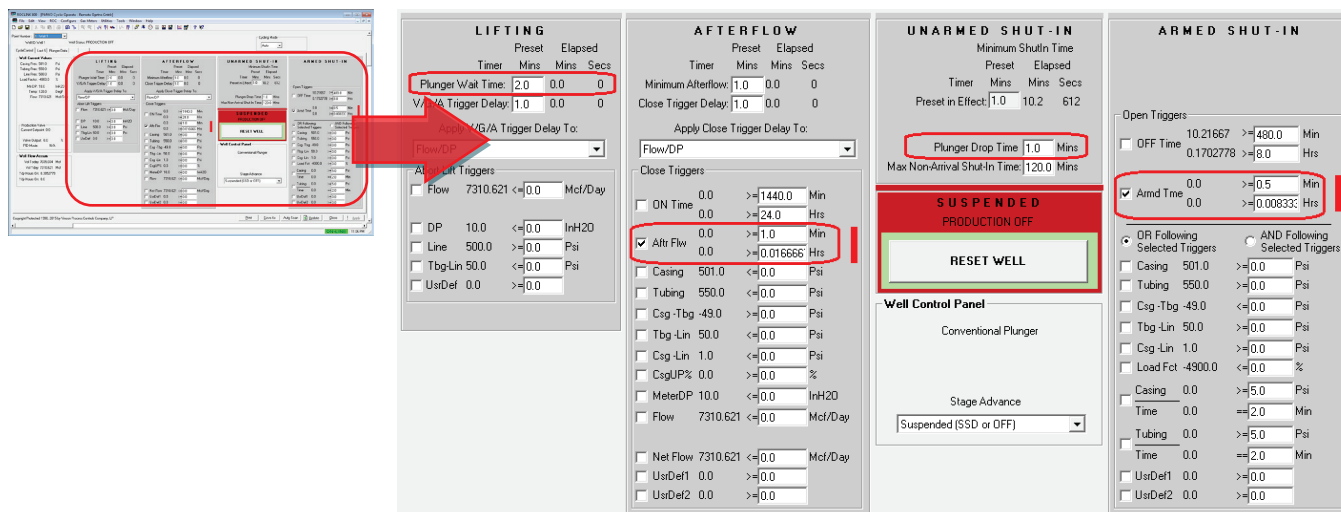

Figure 105. Plunger Lift Simulation – PMWO Cyclic Operate (Plunger Lift Triggers)
3. If necessary, update the **Aft Flw** (after flow), **Armd Time** (armed time), and **Preset In Effect** fields, as shown in *Figure 105*. For the simulation, select a low value for each field, for instance, 1 minute. Click **Apply** to save the changes you make.
- If you use a single solenoid output (discrete) for the production valve, the screen appears as shown in *Figure 105*. Press the **Reset Well** button to open the production valve and begin the cyclic operation. The **Armed Shut-in** state goes active.